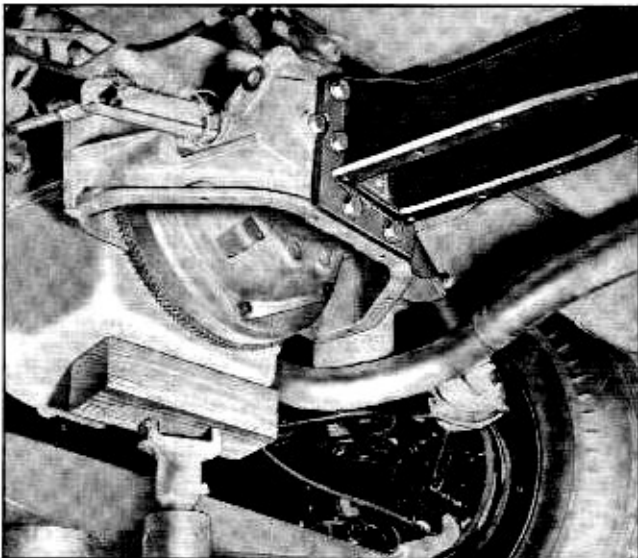

Fig. 4-11 Access Cover Removed
8. Remove 8 screws from torque tube access hole cover and remove cover (Fig. 4-11).